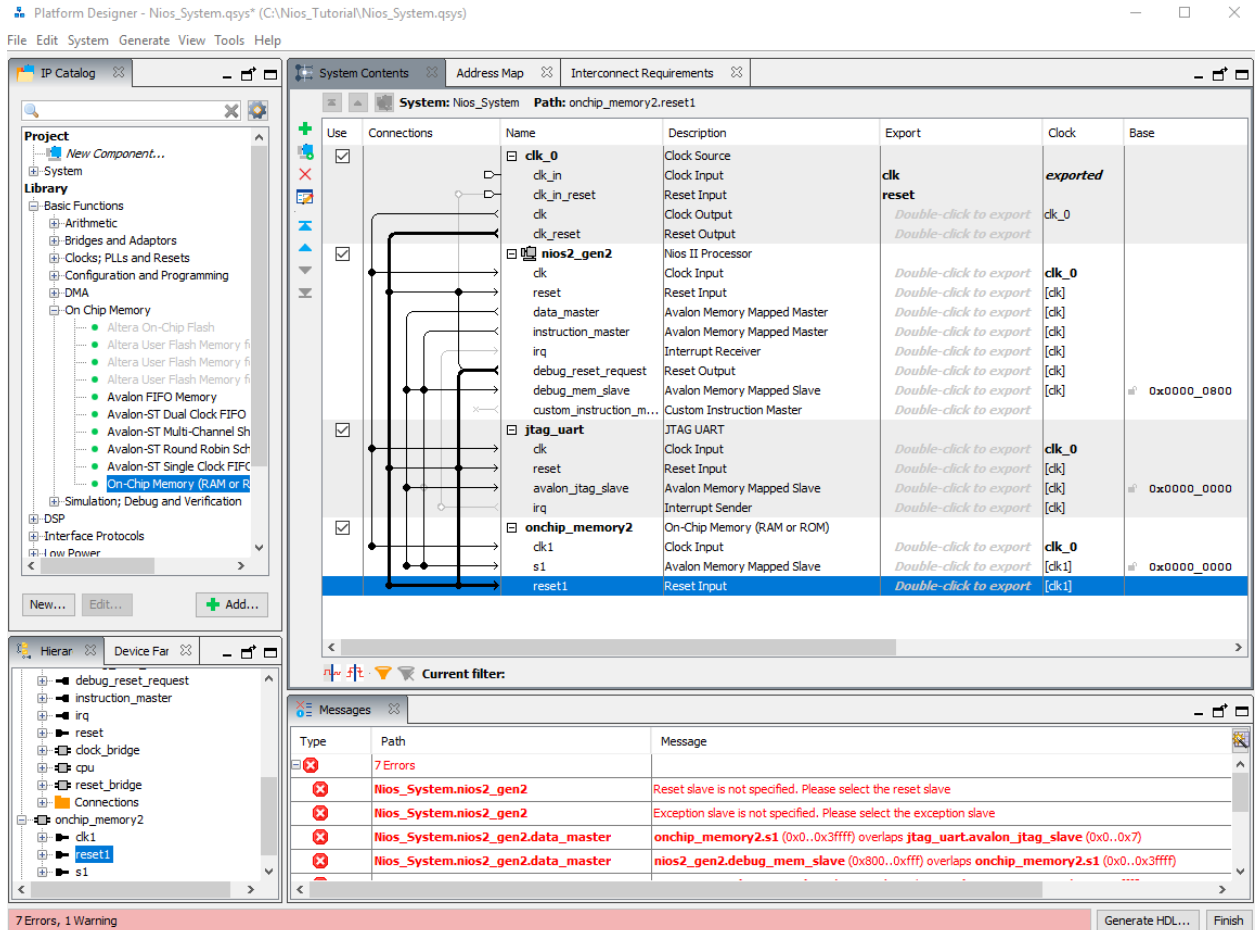

Figure 1-16 Connecting memory to system
11.) Now we will connect the memory to the rest of the system by selecting the clk, reset, data master, and instruction master hollow dots as shown in Figure 1-16.